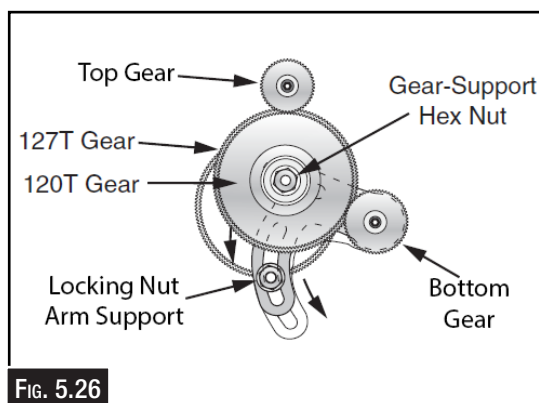

FIG. 5.26
8. Raise the gear support arm and mesh the top gear with the 120T/127T, then tighten the arm support hex locking nut and replace the change gear cover. (Fig. 5.26)